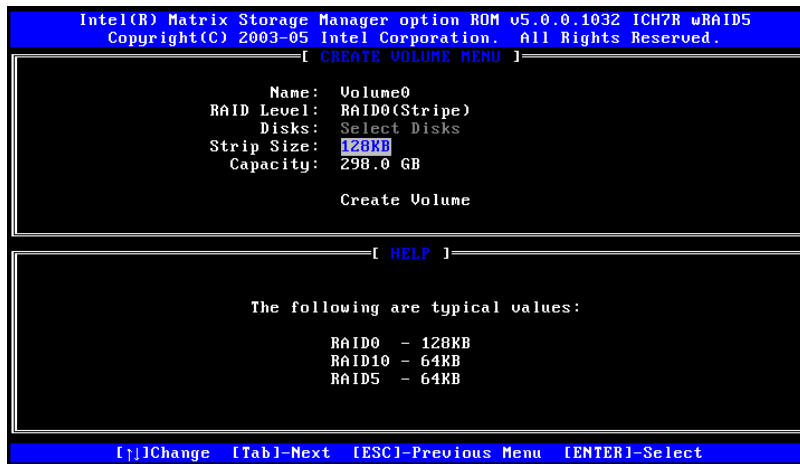

Figure G-4: Select the Stripe Size
Step 4: Select the Stripe Size. Select a stripe size from the list. See **Figure G-4**.